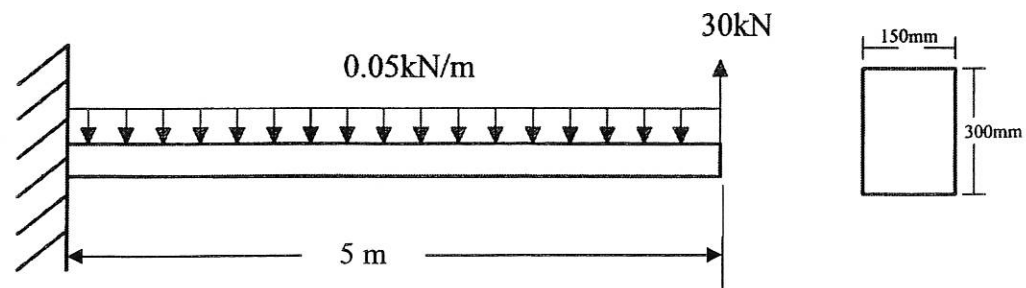

Figure 3
- a) A 5m cantilever beam of cross-section 150mm × 300mm carries a uniformly distributed load of 0.05 kN/m along the beam and a concentrated load of 30kN at its free end as shown in Figure 3. Determine the maximum bending stress at a section 2m from the free end.